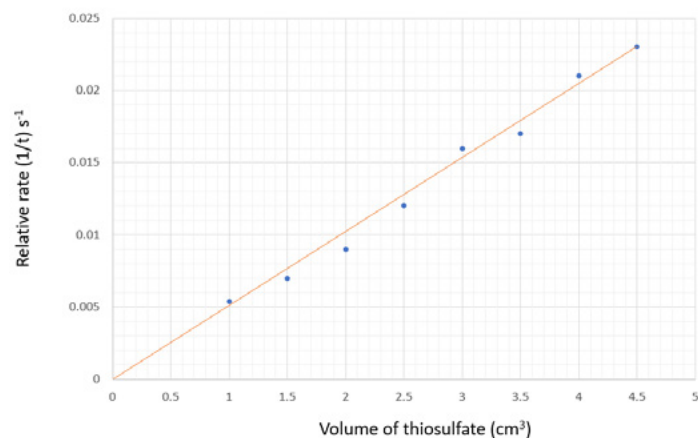

Figure 2: Graph showing the relationship between volume of sodium thiosulfate and relative rate of reaction
6. From the results, plot a graph of relative rate of reaction ($1/t$) against sodium thiosulfate volume (cm³) for each vial (figure 2).
The results in figure 2 demonstrate that the relationship between the volume of thiosulfate solution and the relative rate of reaction is directly proportional. Since the total volume is always the same, the volume of thiosulfate solution can be taken as a measure of thiosulfate-ion concentration. An extension activity for older students could involve calculating the concentrations of thiosulfate ions and plotting concentration against relative reaction rate.